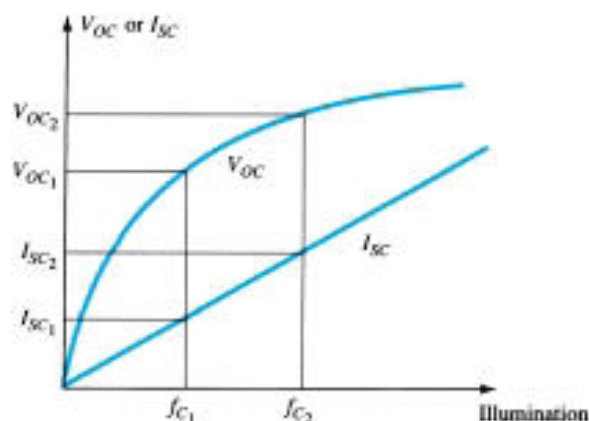

Figure-27 V_{oc} and I_{sc} versus illumination for a solar cell
- This is a logarithmic function of the illumination, as shown in Figure-27. V_{OC} is the terminal voltage of a battery under no-load (open-circuit) conditions.
- Note, however, in the same figure that the short-circuit current is a linear function of the illumination. That is, it will double for the same increase in illumination ($fC1$ and $2fC1$ in Figure-27) while the change in V_{OC} is less for this region.